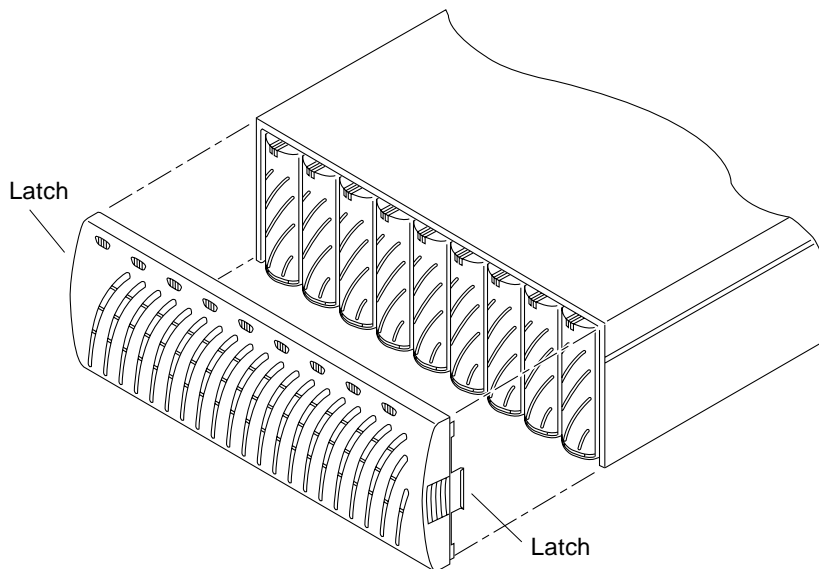

FIGURE 5-2 Removing the Front Panel
4. Remove the front panel of the array by pressing in on the side latches and pulling the cover off (FIGURE 5-2).